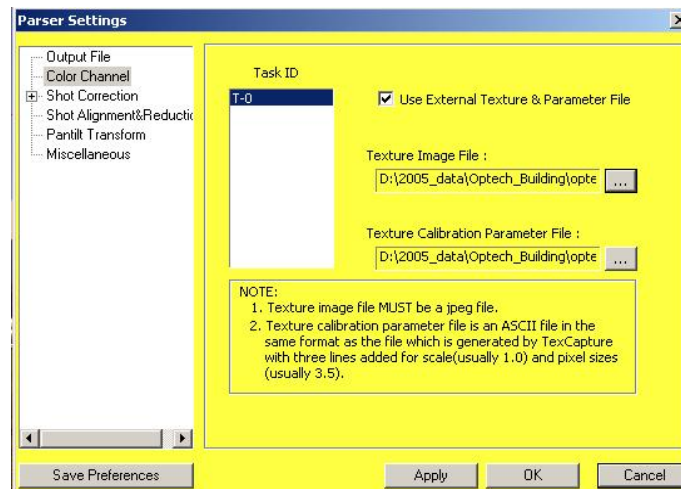

Figure 20: Color channel settings
7. In the **Parser Settings** window, select **Color Channel**. The Color Channel settings appear (Figure 20).